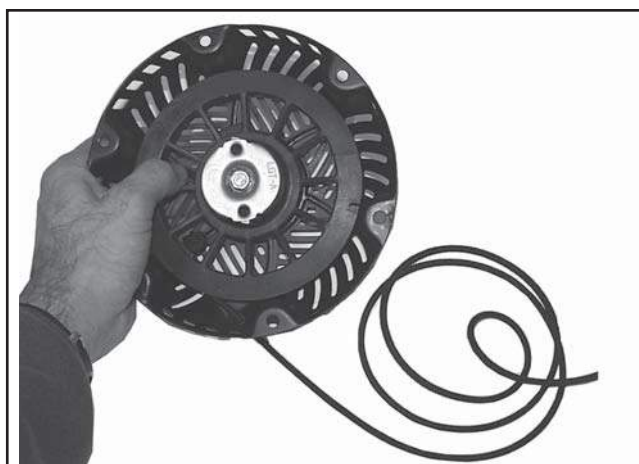

**Figure 7-4. Left-hand Knot.**
6. Tie a double left-hand knot in one end of the new rope. See Figure 7-4.